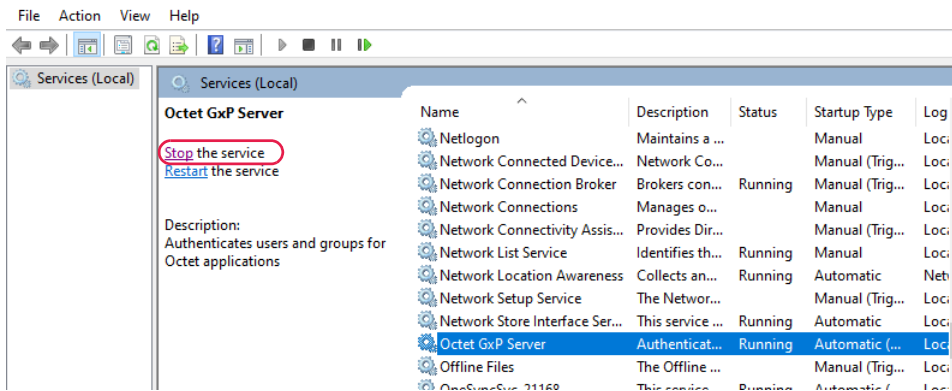

Figure B-13: Stop the service
2. Locate Octet® GxP Server in the list of services, and then click **Stop the service** (Figure B-13).